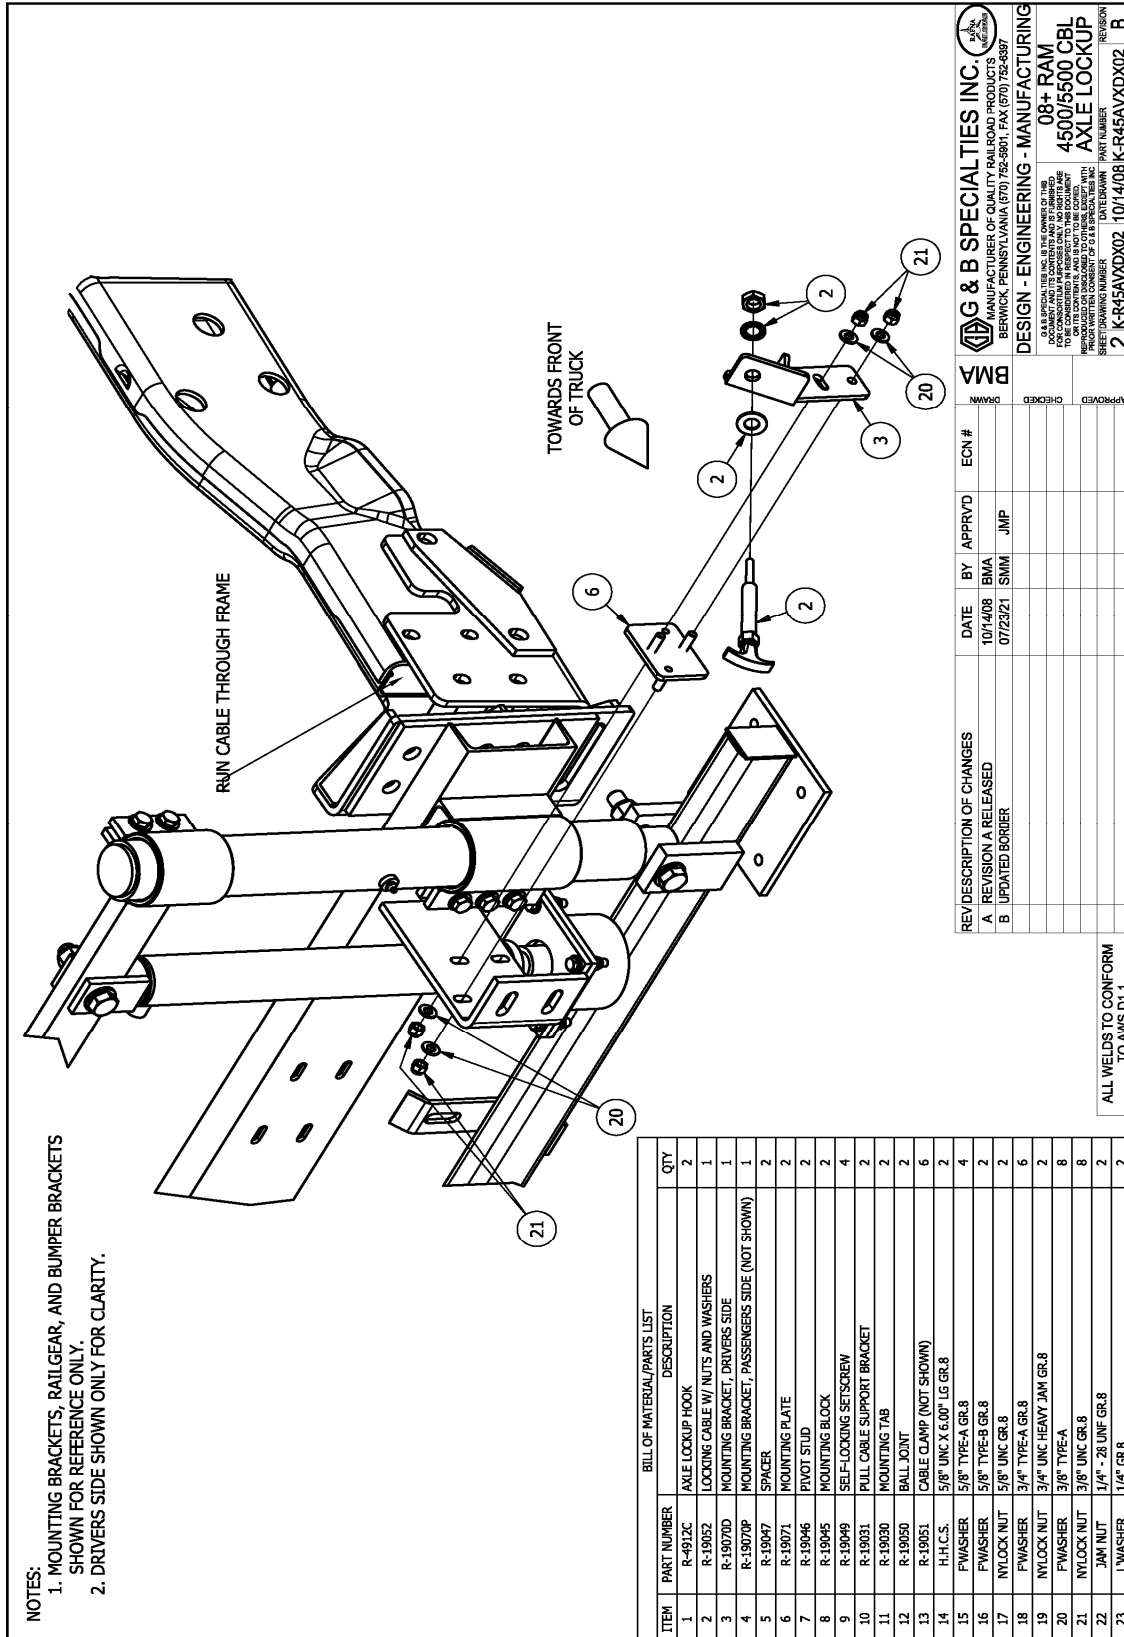

Figure 2: Assembly and Installation of Cable Handle and Brackets
5. Place the axle lockup hook on the pivot stud, and hold the lockup hook underneath the spacer, leaving about 1/4" between the hook and the spacer, and weld the mounting block to the shock tower. See Figure 2 for reference.
7. Fasten the mounting plate to the bumper brackets using two 3/8" washers, and two nylock nuts as shown in Figure 2.
8. Fasten the mounting bracket to the mounting plate using two 3/8" washers, and two nylock nuts as shown in Figure 2.
9. Fasten the T-knob end of the cable to the mounting brackets as shown in Figure 2.
14. While holding the pull cable support bracket against the frame, extend the cable for road position to ensure the hook will be clear of the brake lines as shown in Figure 2.